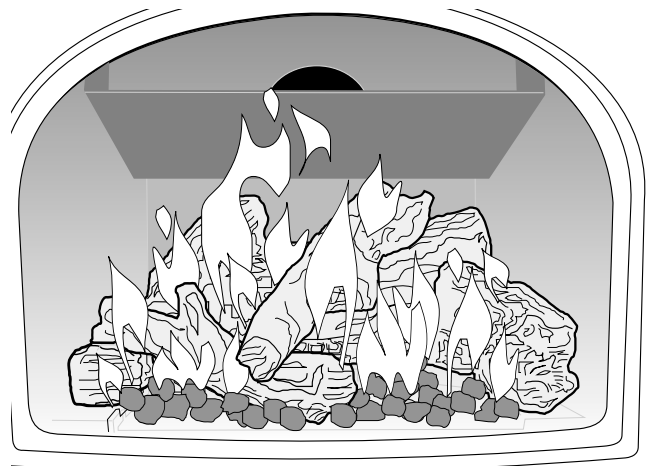

Figure 39. Flame appearance on the "high" setting after approximately 15 to 20 minutes burning.
- BURNER ADJUSTMENT:** This stove is equipped with a variable gas control valve that allows easy adjustment of the flame height appearance and heat output. To adjust the flame between the HI and LOW setting, rotate the HI/LOW knob, located in the center of the valve face. **Flame height will adjust approximately 1" to 2" between the LOW and HIGH settings. See fig. 39.**